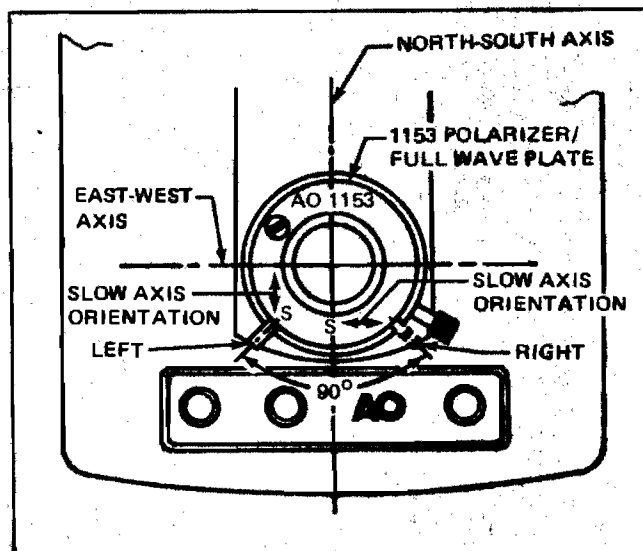
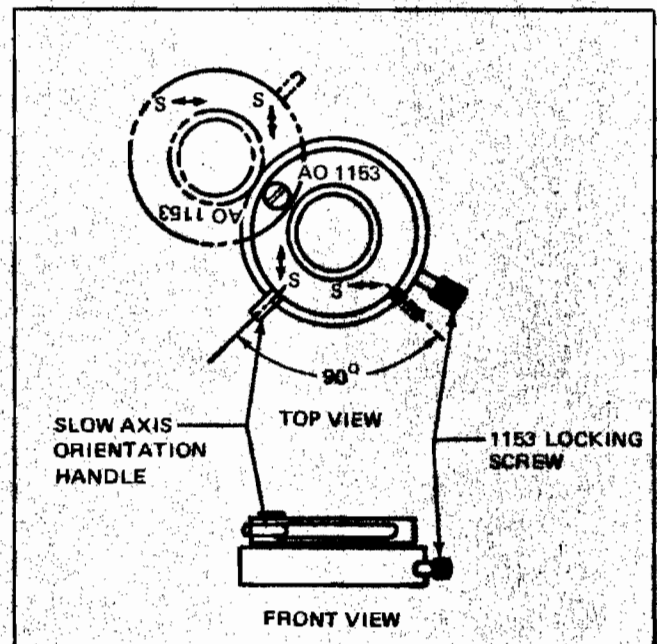

Figure 2
Figure 4
3. Lock the 1152 Analyzer Turret in this position by tightening the Arm Locking-Screw. The polarization plane of the analyzer now makes an angle of  $45^\circ$  with the North-South Axis of the microscope stage (Figure 2).
The 1153 Polarizer/Full Wave Plate (Figure 4) is mounted on the Illuminator Window Assembly Mounting Flange as shown in Figure 2. Proceed as follows:
2. Loosen the 1153 Locking-Screw (Figure 4) so the 1153 Polarizer/Full Wave Plate can be mated with the Illuminator Window Assembly.
3. Install the 1153 Polarizer/Full Wave Plate so the engraved left Slow Axis marking is parallel to the North-South Axis of the microscope stage (Figure 2). DO NOT tighten the 1153 Locking-Screw.
When the 1153 is positioned as indicated in Figure 2, the polarization plane of the polarizer (in the 1153) is "crossed" with the polarization plane of the analyzer (in the 1152). Fine adjust as follows:
2. Remove the 1153 Swing-In Full Wave Plate from the light path by rotating it on its pivot (Figure 4).
6. Move the Slow Axis Orientation Handle (Figure 4) to its extreme left position. The Slow Axis of the Full Wave Plate is now parallel to the North-South Axis of the microscope stage (Figure 2). The field will be magenta. (Note: For best results, use 1087S Strain-Free Condenser.)
7. Move the Orientation Handle to its extreme right position. The Slow Axis is now parallel to the East-West Axis of the stage (Figure 4). The field will once again be magenta.